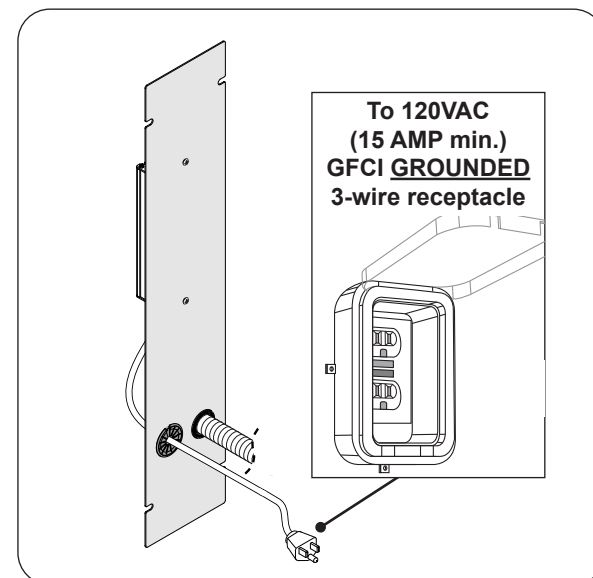

Fig. 21-3 Route and connect power cord
3. Install the included bushing onto the power cord and slide the bushing up against the access plate knock-out hole and snap into place. See Fig. 21-3.
Connect the cord coming from the rear access plate to a **120VAC (15 AMP minimum) GFCI GROUNDED 3-wire receptacle**. The GFCI receptacle must be a WEATHER-PROOF IN-USE COVERED RECEPTACLE. See Fig. 21-3.